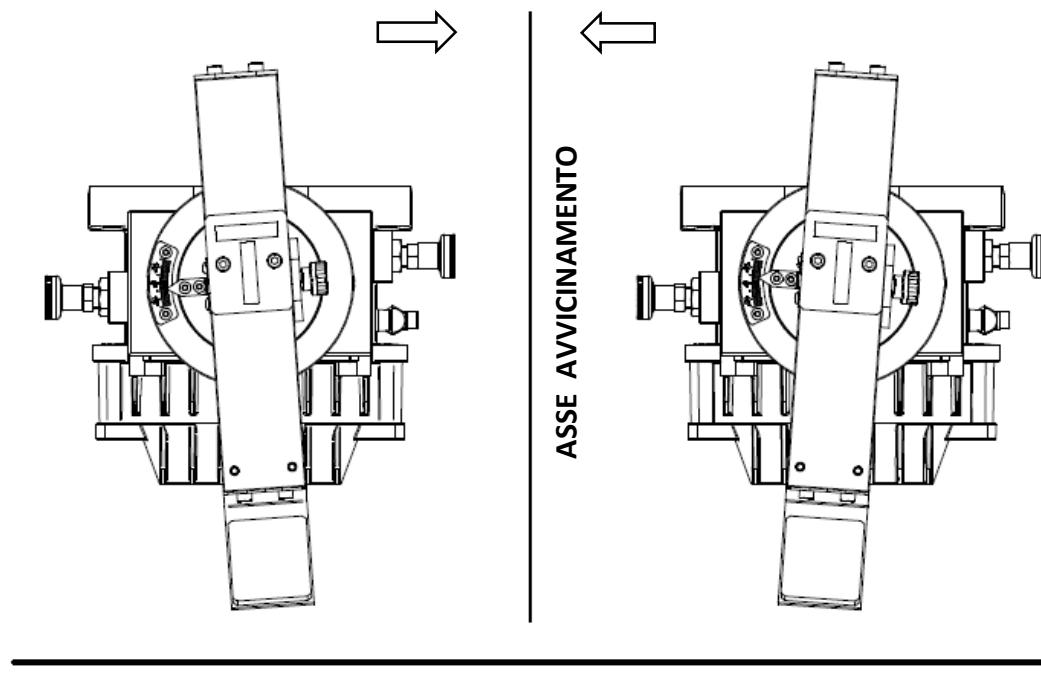

Figure 5: direction of fixture rotation towards the approach centreline for toe-in adjustment
- Set the required aiming as shown in figure 5.